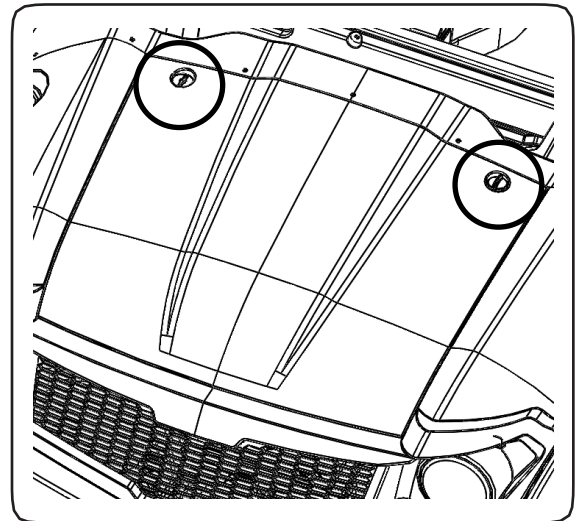

Figure 2-9
1. Unscrew two bolts and open the hood, as shown in figure 2-9.